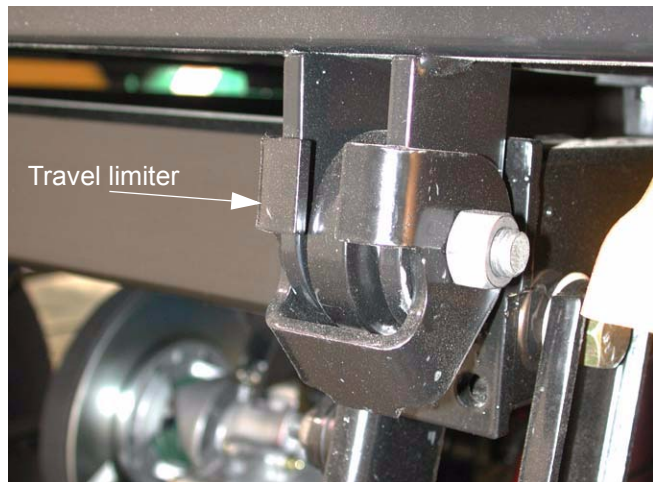

Figure 4.19
- 4.19. Travel limiters are installed on the 4 X 2 bed hinge point to keep the bed from tilting beyond the intended range. Under no circumstances should a Big Country 4 X 2 be placed in service without those components in place. See Figure 4.19.